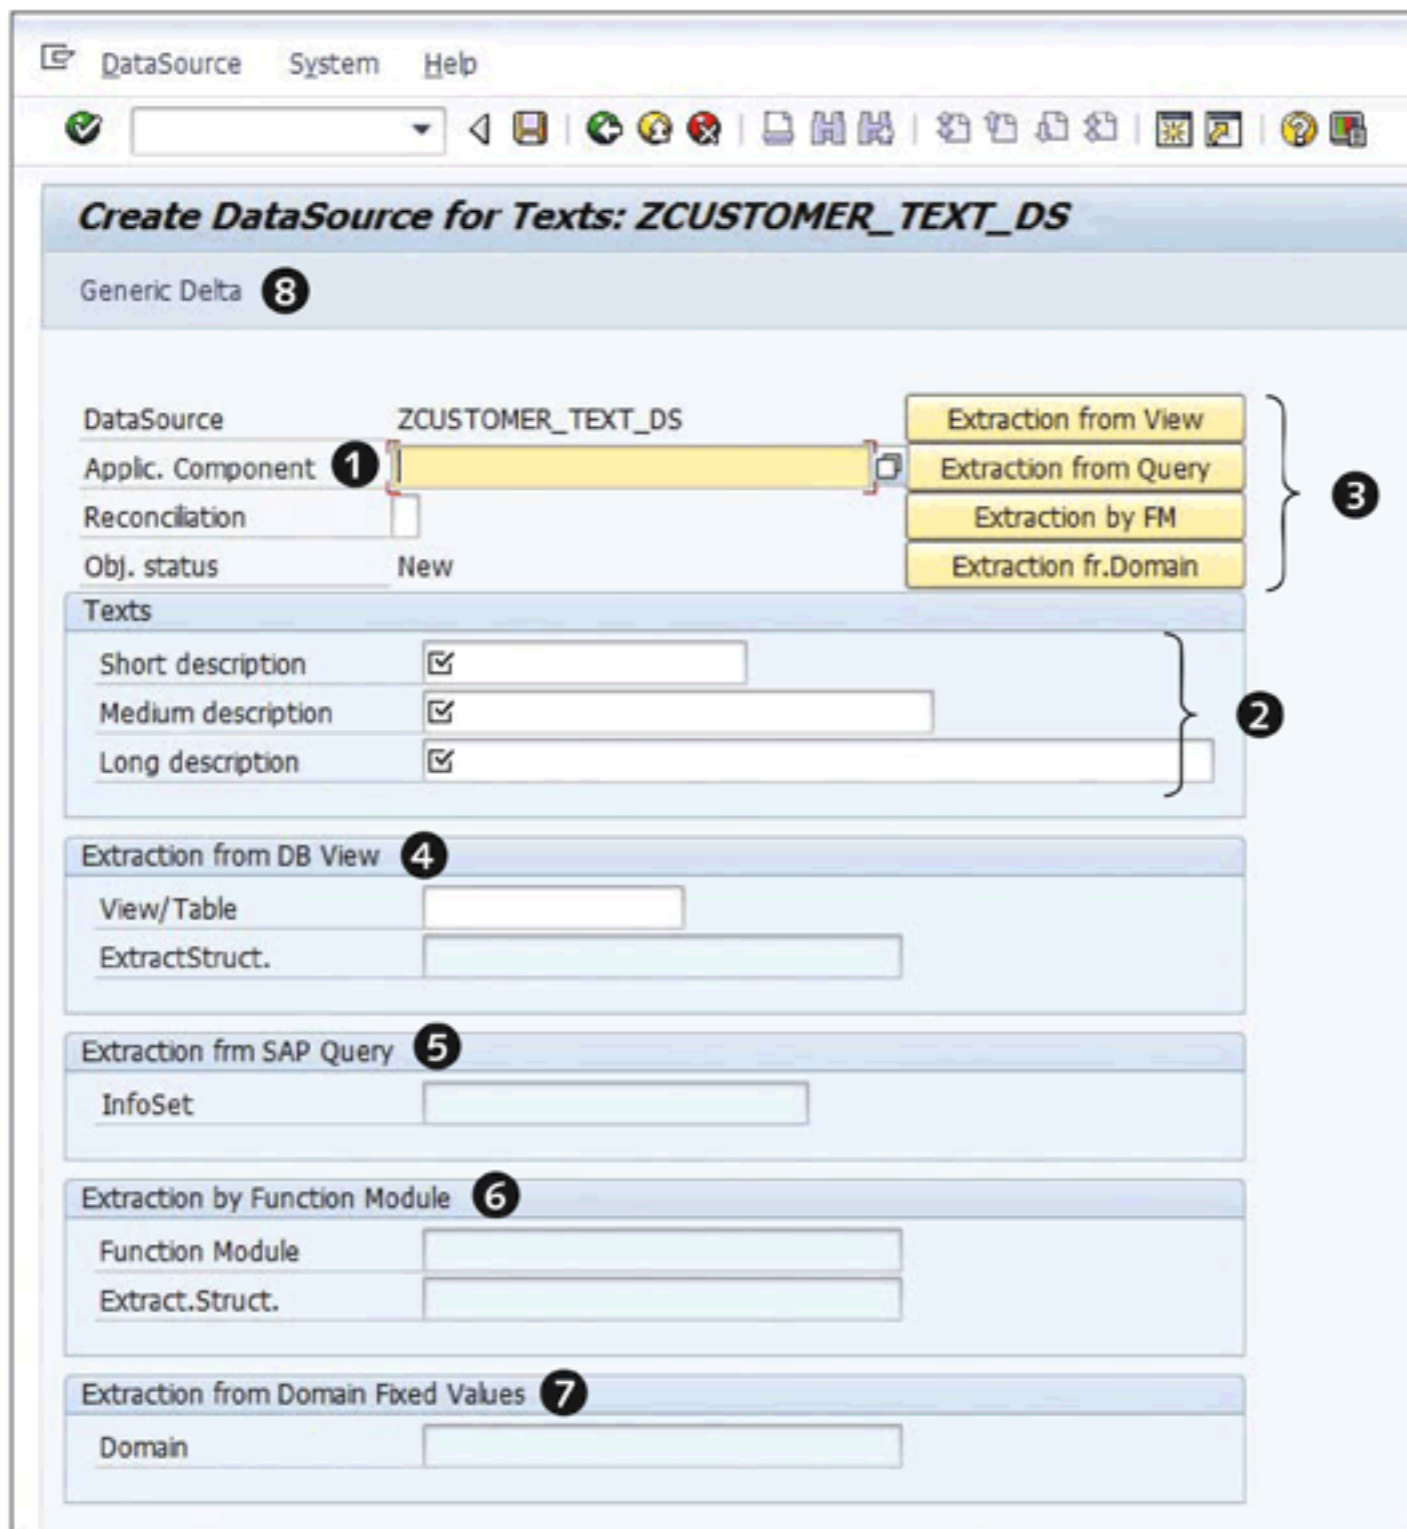

Figure 8.6 Create DataSource Initial Screen
DataSource, and click on the CREATE button (4). This action opens the screen shown in Figure 8.6.
We'll now explain the different parts of the screen shown in Figure 8.6.
which is known as the application component hierarchy. You can add more nodes to the delivered application component hierarchy or create your DataSource under a standard node. The application component hierarchy can be seen by clicking on the dropdown icon on the extreme right, as shown in ❶ of Figure 8.6.
A DataSource is described using text. You can attach a short, medium, and/or long description to a DataSource (❷ of Figure 8.6).
As shown in ❸ of Figure 8.6, there are four different options available to create a DataSource, selected based on how your data is stored:
If data is stored in a single table or set of tables that are related via a common key, you can select this option. Then enter the details in the area shown in ❹ of Figure 8.6. (Note: This option is selected by default.)
SAP queries allow users to define and execute custom evaluations of data in the SAP system; they are easy to use and don't require knowledge of ABAP coding. When the data required is available upon execution of an SAP query, you can create a DataSource based on this query. Selecting this option allows you to enter the details of the SAP query name in the area shown in ❺ of Figure 8.6.
required because this method requires the creation of a function module. Selecting this option allows you to enter the details of a function module in the area shown in ⑥ of Figure 8.6.
You create a DataSource based on a domain to load master data text into an InfoObject in SAP NetWeaver BW. Selecting this option allows you to enter the details of the domain in the area shown in ⑦ of Figure 8.6.
By default, generic DataSources aren't delta-capable; they always provide a full data set based on selection criteria. To change this, click on the **GENERIC DELTA** button shown in ⑧ of Figure 8.6. We describe more about this button in Section 8.3.3.